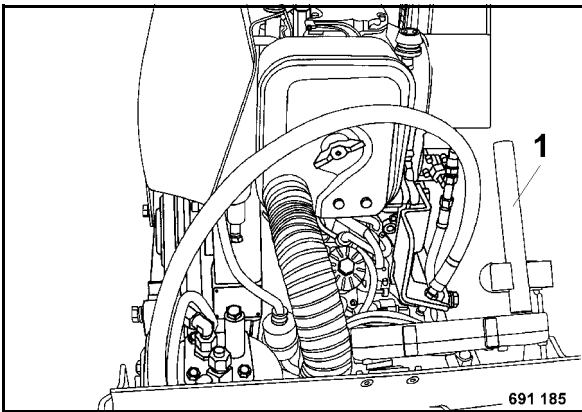

Fig. 24
- Take the safety crank handle (1) (Fig. 24) out of the bracket.